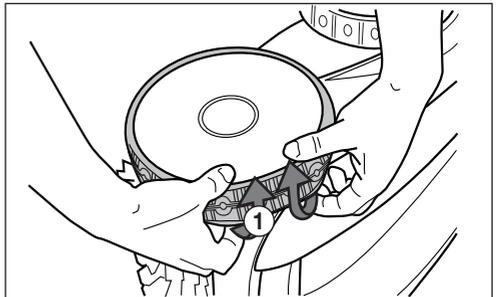

Figure 23. Pull the Old Tyre Over the Wheel
1. Pull on the inside of the old tyre to remove the tyre lip from the wheel. See Figure 23.